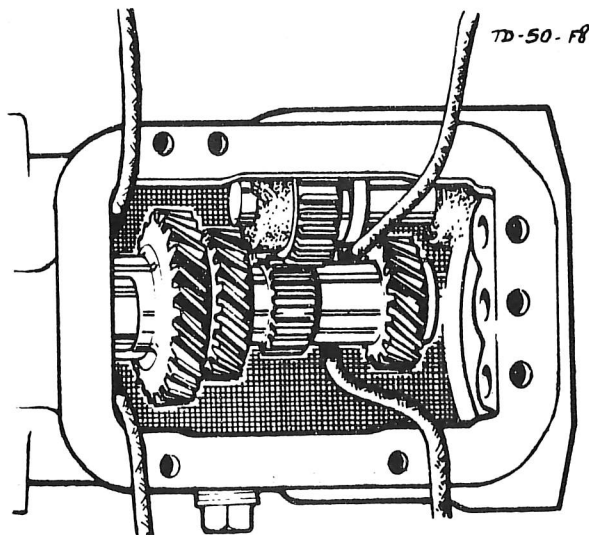

Fig.8. FITTING COUNTERSHAFT
21. Position the countershaft gear in the bottom of the gearbox casing, taking care not to displace the thrust washers. A piece of string fitted under either end of the countershaft gear at this stage will facilitate assembly later. See Figure 8.